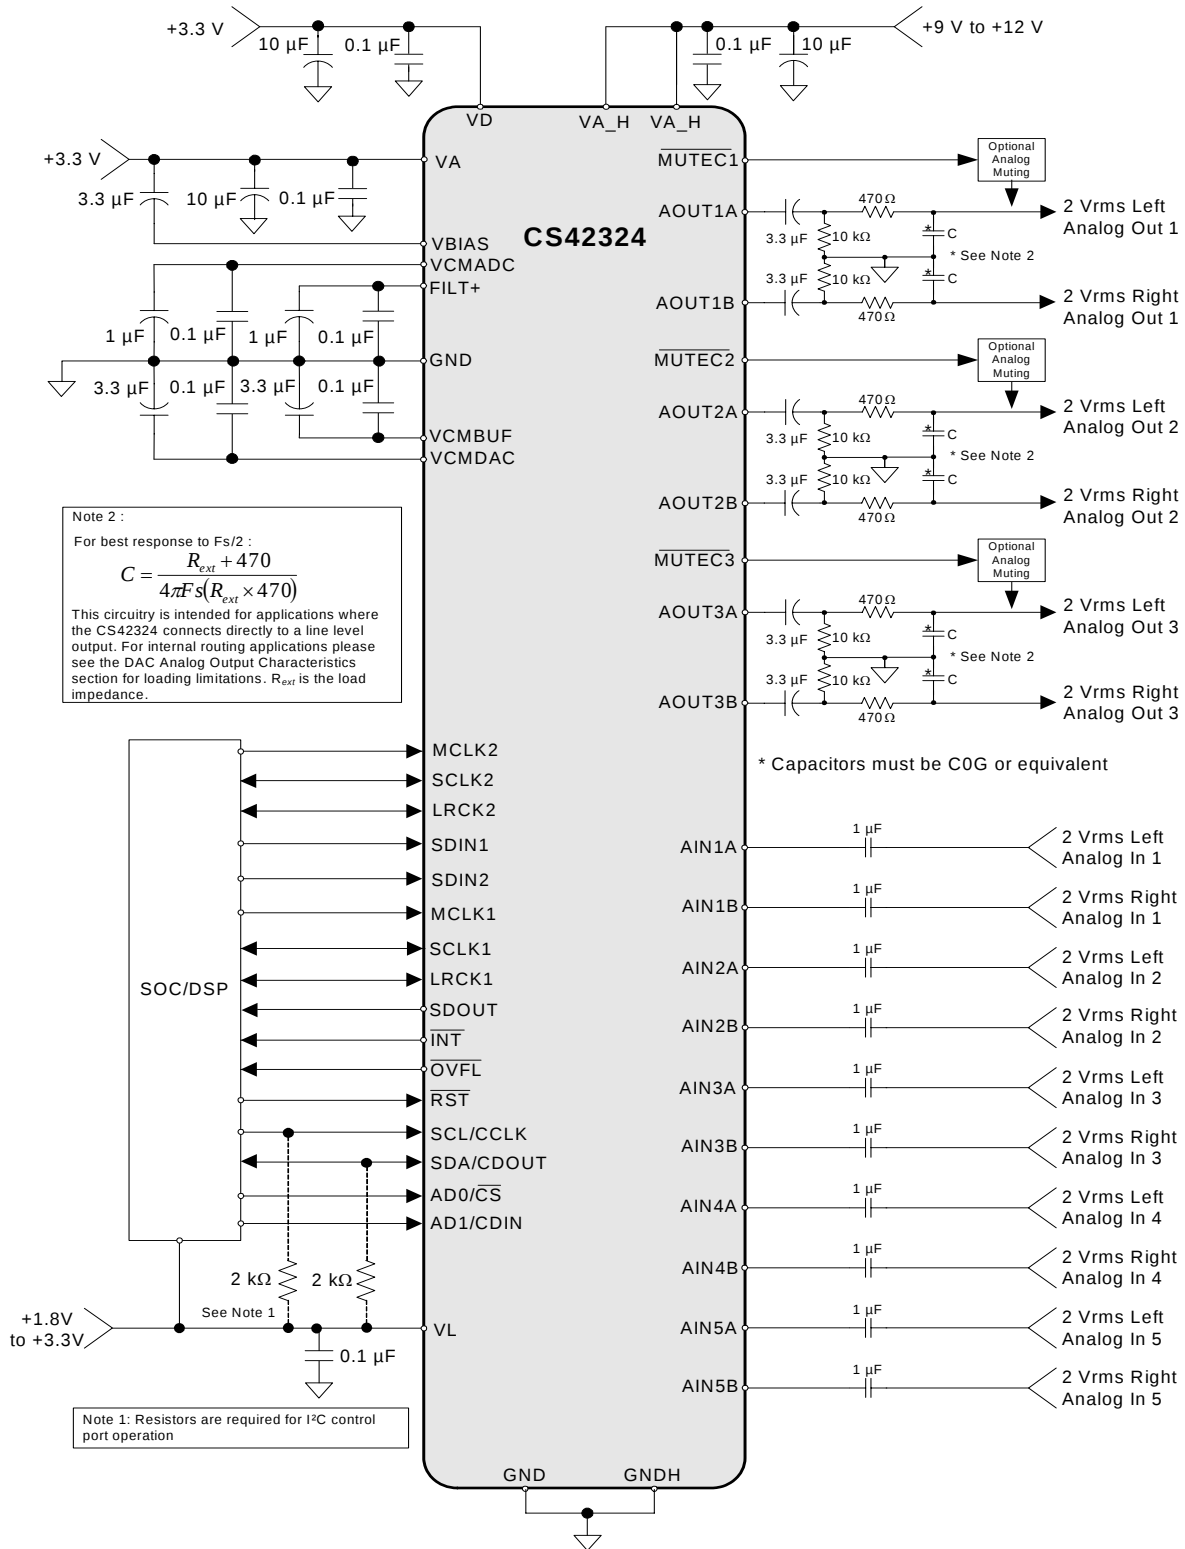
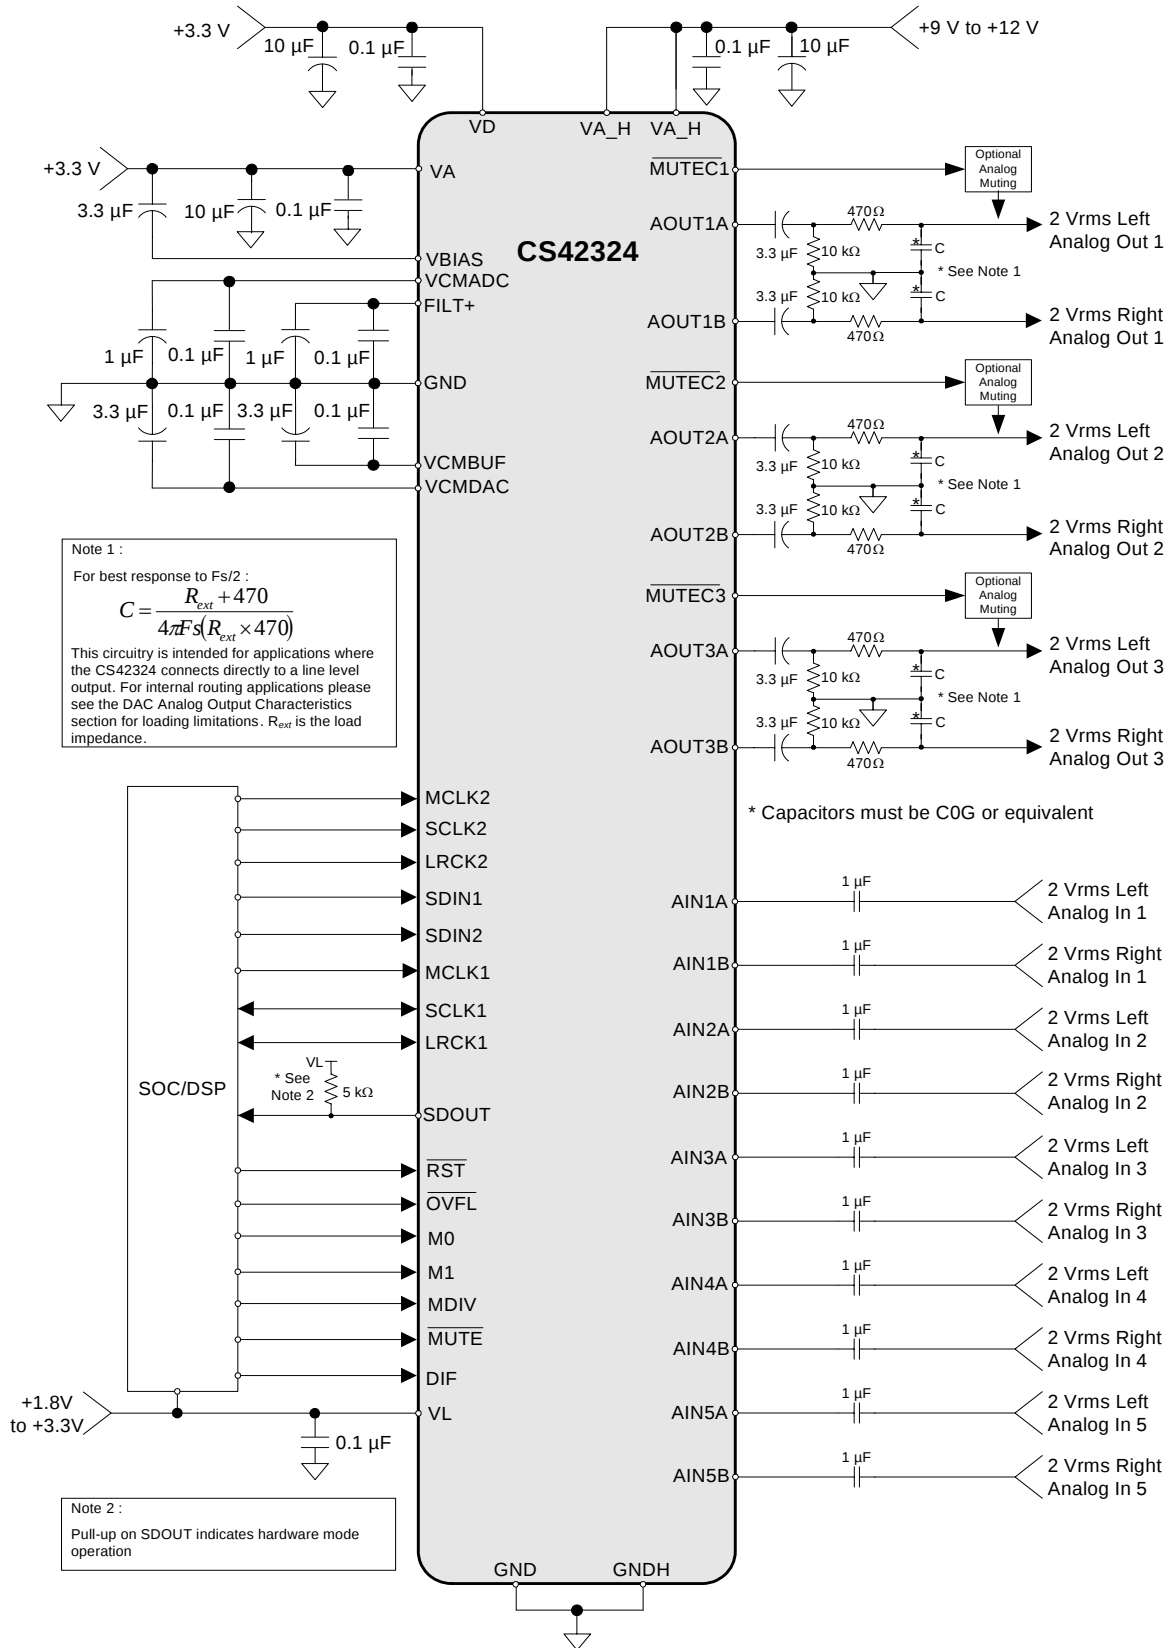

Figure 7. Typical Connection Diagram - Software Mode
Figure 8. Typical Connection Diagram - Hardware Mode
14. Valid with the recommended capacitor values on FILT+, VCMDAC, VCMADC and VCMBUF as shown in Figure 7 on page 26 and Figure 8 on page 27.